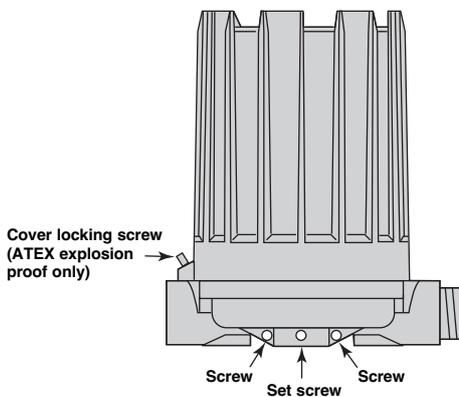
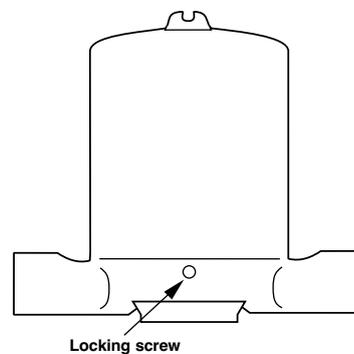

Figure 13
Figure 14
1. Loosen set screw(s) at base of switch housing. Refer to Figure 13.
Caution: DO NOT attempt to unscrew cover of ATEX explosion proof housings before loosening locking screw in cover (Figure 13 - ATEX cast aluminium) or base (Figure 14 - ATEX cast iron) of housing. ALWAYS retighten locking screw after replacing cover.